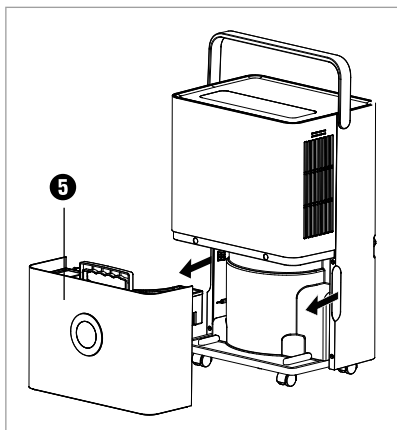

Fig. 1
- ◆ Pull the water tank **5** carefully out of the appliance using the recessed grips **4** on the side (see Figure 1). Use the handle to transport the water tank **5**.